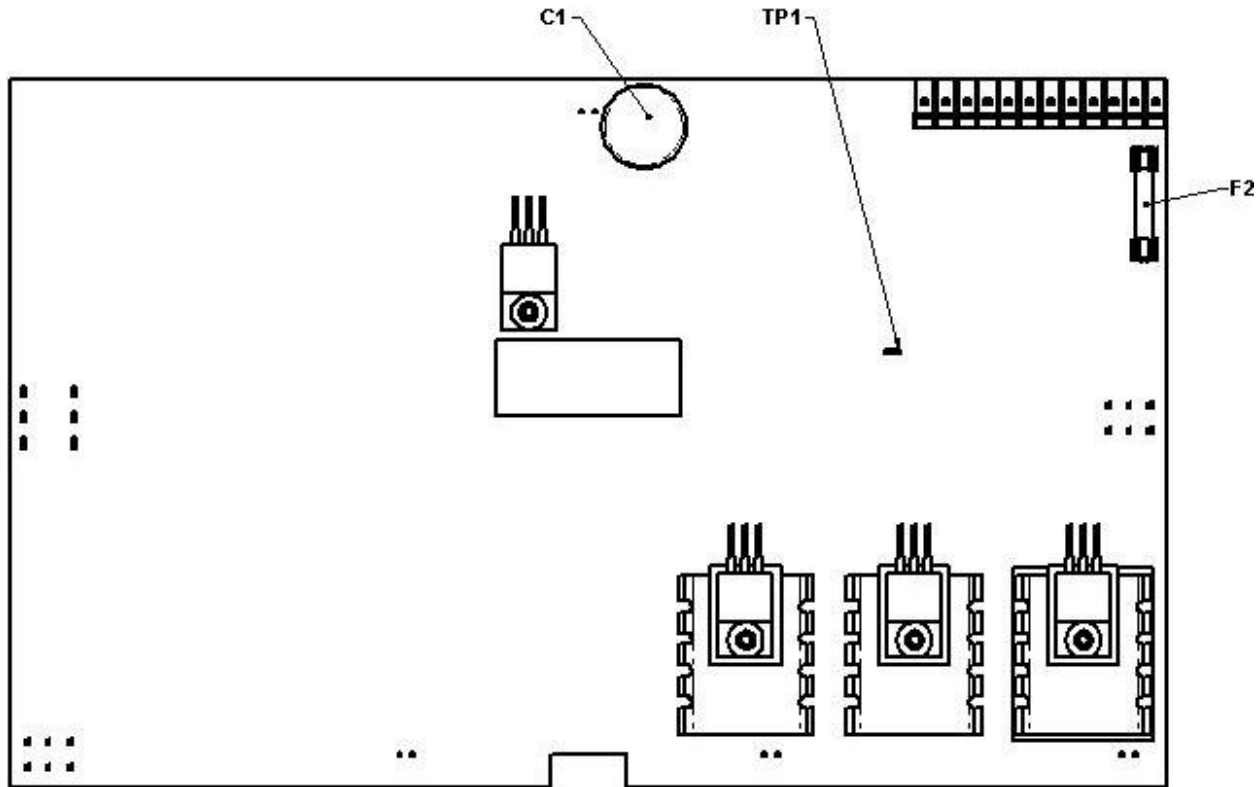

Figure 12 – Main PC Board
- 8.06 Install fuse F2 (from plastic bag) – refer to Figure 12. Again, measure the voltage at test point +20.7V with respect to test point GND; it should now be between  $\approx 15$  V and  $\approx 20.7$  V. If the MRU batteries have been stored for more than one year without charging, it may be necessary to wait for up to 8 hours for the voltage to reach  $\approx 20.7$  V.